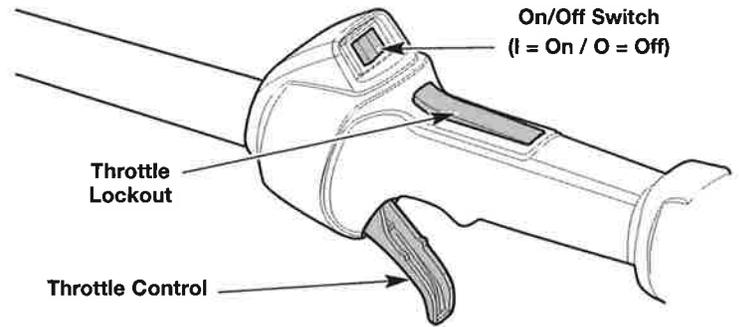

Fig. 7
NOTE: DO NOT squeeze the throttle control until step 8 (Fig. 7).
8. Press and hold the throttle lockout (Fig. 7). Squeeze the throttle control as needed for operation (Fig. 7).
2. Press and hold the On/Off switch in the **Off (O)** position until the engine comes to a complete stop (Fig. 7).